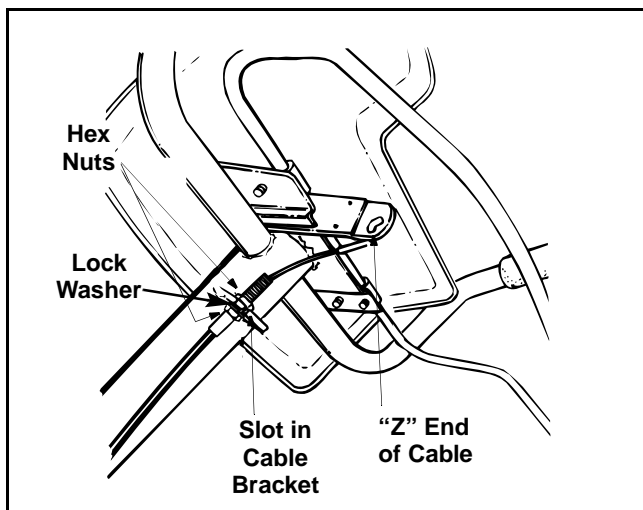

Figure 8
- Remove one hex nut from the threaded casing on the end of the cable and slip the wire up through the slot on the cable bracket underneath the handle. See Figure 8.
- Pull the cable upwards to obtain slack and from right to left hook the "Z" end of the cable into the bracket on the clutch control (beneath the handle panel). Tighten the nut against the cable bracket. See Figure 8.
few turns. Tighten the upper hex nut against the bracket. See Figure 8.